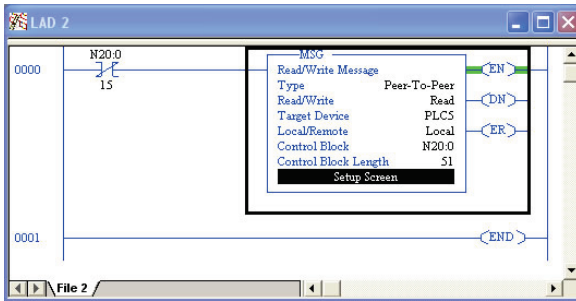

Figure 84: Completed PLC Program
7) The program is now complete. Refer to Figure 84.